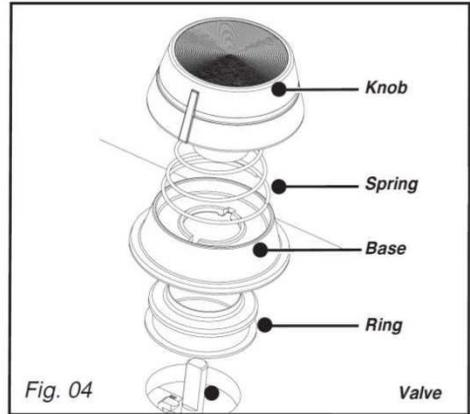

Fig. 04
- **Adjust the burner power screws:** they are located under the knobs (*Fig. 04*).